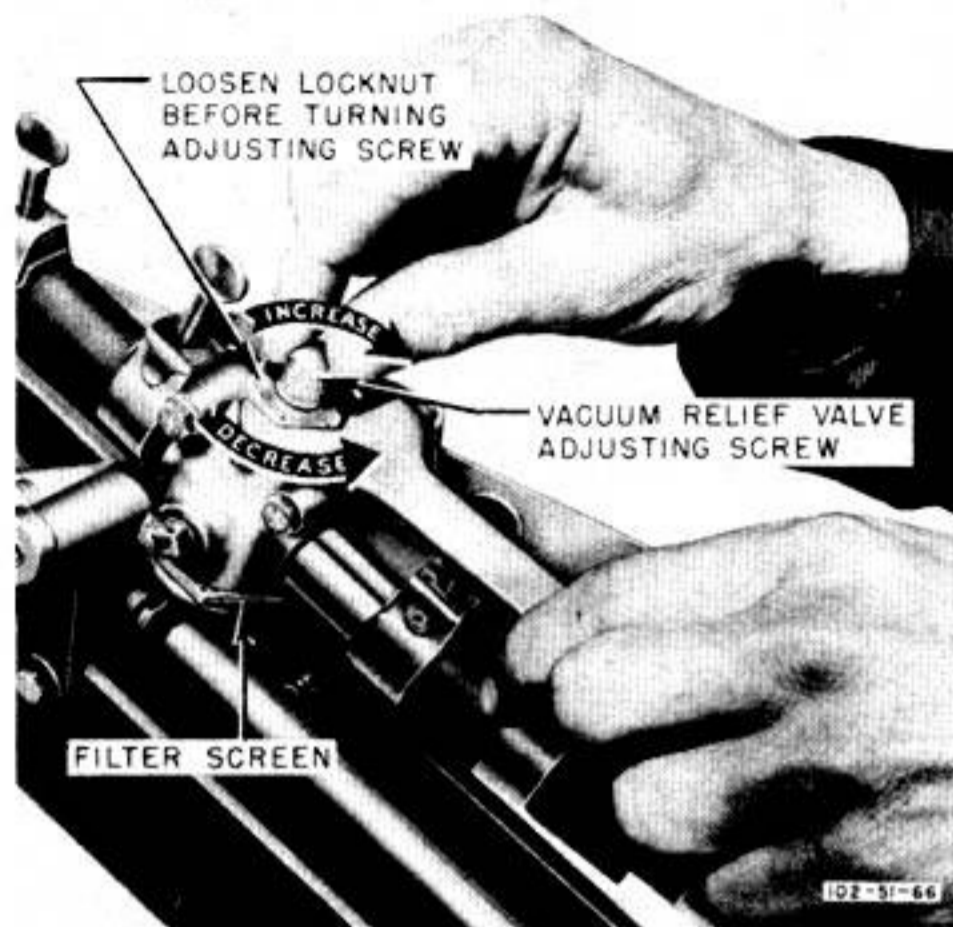

Figure 285—Adjusting Vacuum Relief Valve
1. DESCRIPTION.—The Type B-12 relief valve (figure 285) on the upper left cowl former is a spring-loaded disc-type valve. The disc is held against a screened valve set
c. Remove lockwire, loosen locknut, and turn the valve adjusting nut (figure 285) to give a suction gage reading of 3.75 in. Hg.